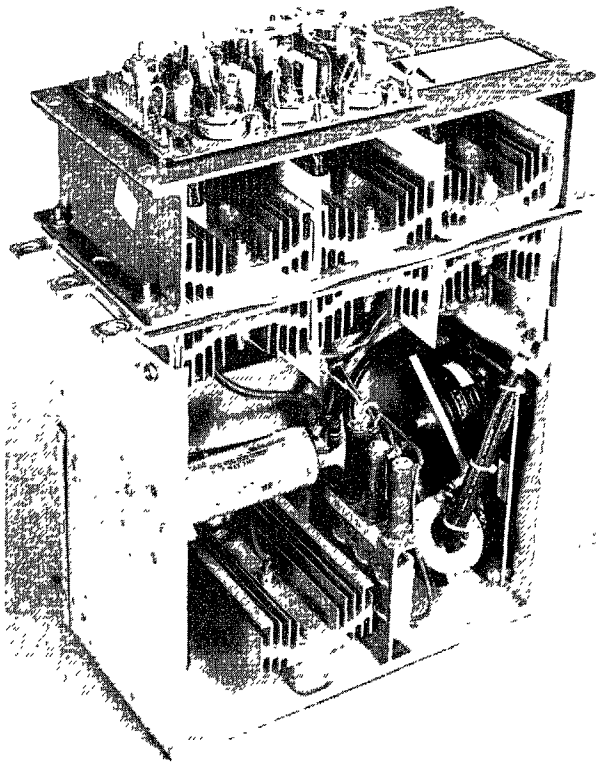

FIGURE 22
2. Stand the phase module on its back side on a 30" high table. The pulse transformer printed circuit card should be on top. (Normally on the front of the module). See Fig. 22.